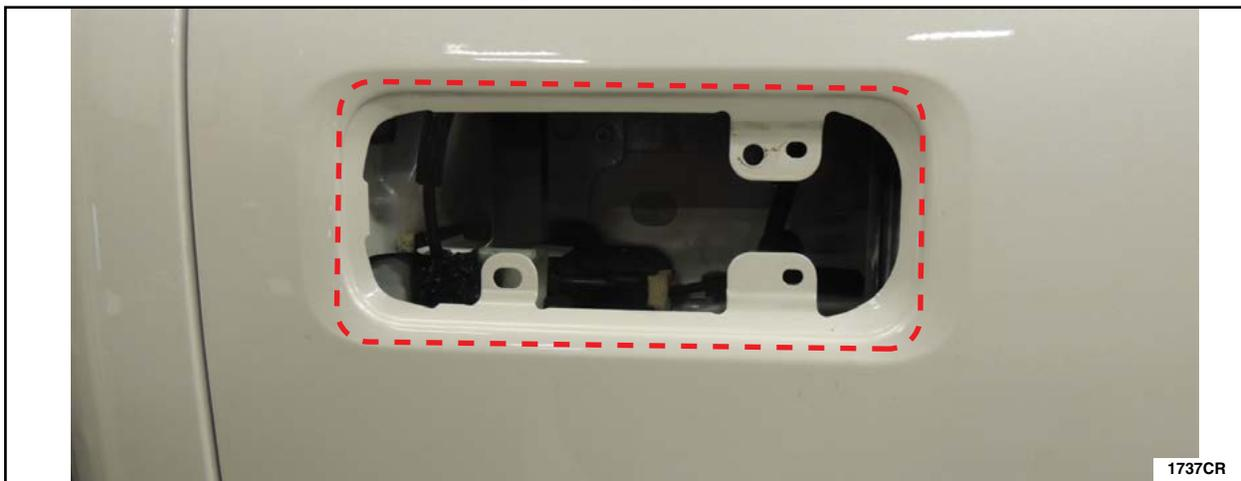

FIGURE 57
32. Using a clean shop towel and isopropyl alcohol, clean inside the dotted lines on the mating surface area of the exterior door handle opening. See Figure 57.